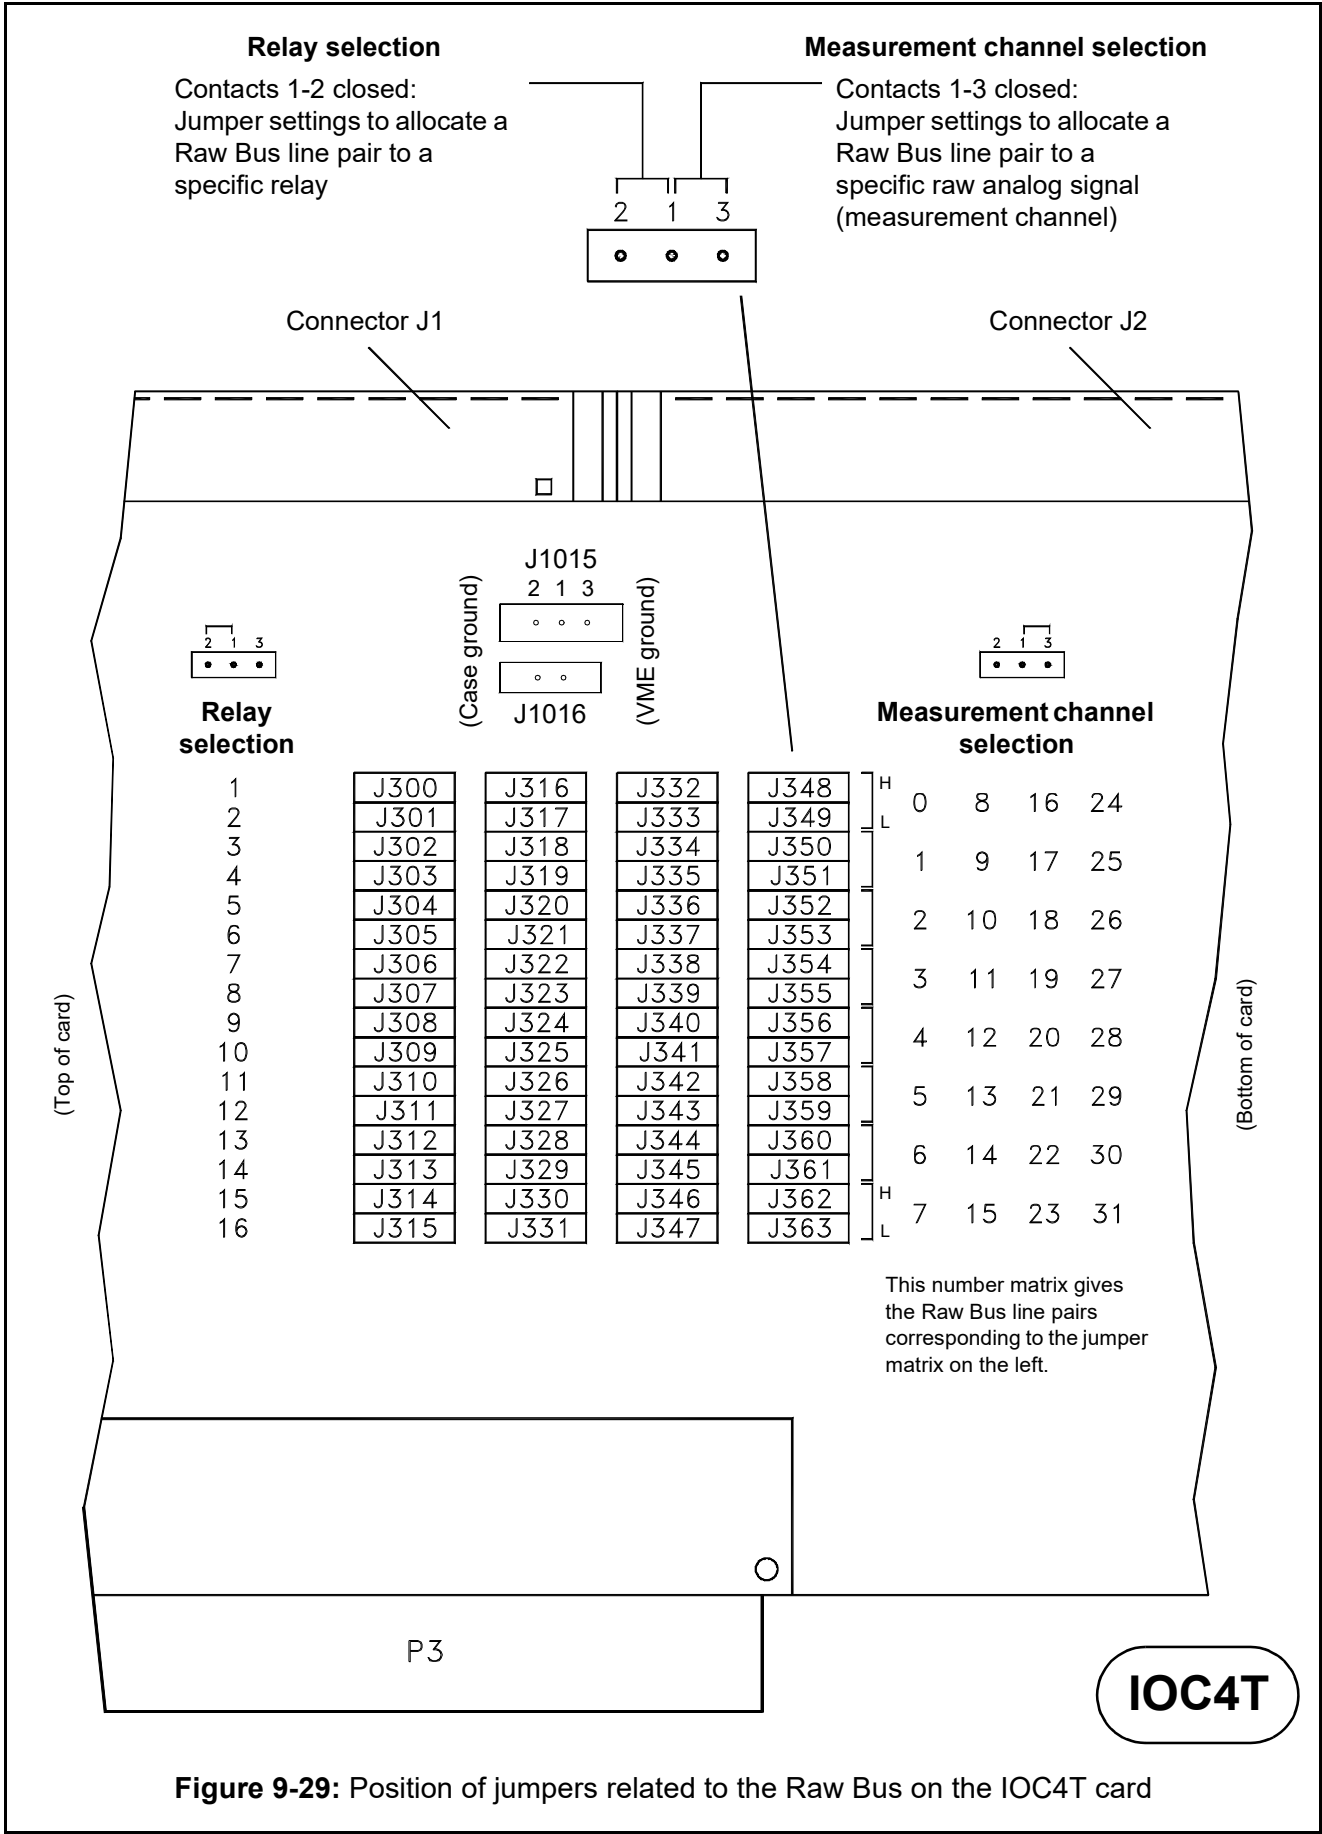

Figure 9-29: Position of jumpers related to the Raw Bus on the IOC4T card
The location of the J1015 jumper on the IOC4T card can be found using Figure 9-29.
The allocation of a specific Raw Bus line pair to a measurement channel is done by setting jumpers on the IOC4T card (and on the IOC16T card – refer to the *VM600 condition monitoring system (CMS) hardware manual* (MACMS-HW/E)). The mapping of the measurement channels to the Raw Bus line pairs is summarised in Table 9-6, together with the required jumper settings. The position of the relevant jumpers on the IOC4T card is shown in Figure 9-29 with an explanation of which jumpers correspond to which Raw Bus lines (see “measurement channel selection” on the right of the figure).
The allocation of a specific Raw Bus line pair to a specific control signal line is done by setting jumpers on the IOC4T card. The jumper settings are summarised in Table 9-7 and the position of the relevant jumpers on the IOC4T card is shown in Figure 9-29 with an explanation of which jumpers correspond to which Raw Bus lines (see "relay selection" on the left of the figure).
The control signal is subsequently routed towards a specific relay on the RLC16 card by setting a jumper on the RLC16. Additional jumpers on the RLC16 allow the selection of relay normally energised (NE) or normally de-energised (NDE). The jumper settings are summarised in Table 9-7 and the position of the relevant jumpers on the RLC16 card is shown in Figure 9-29.